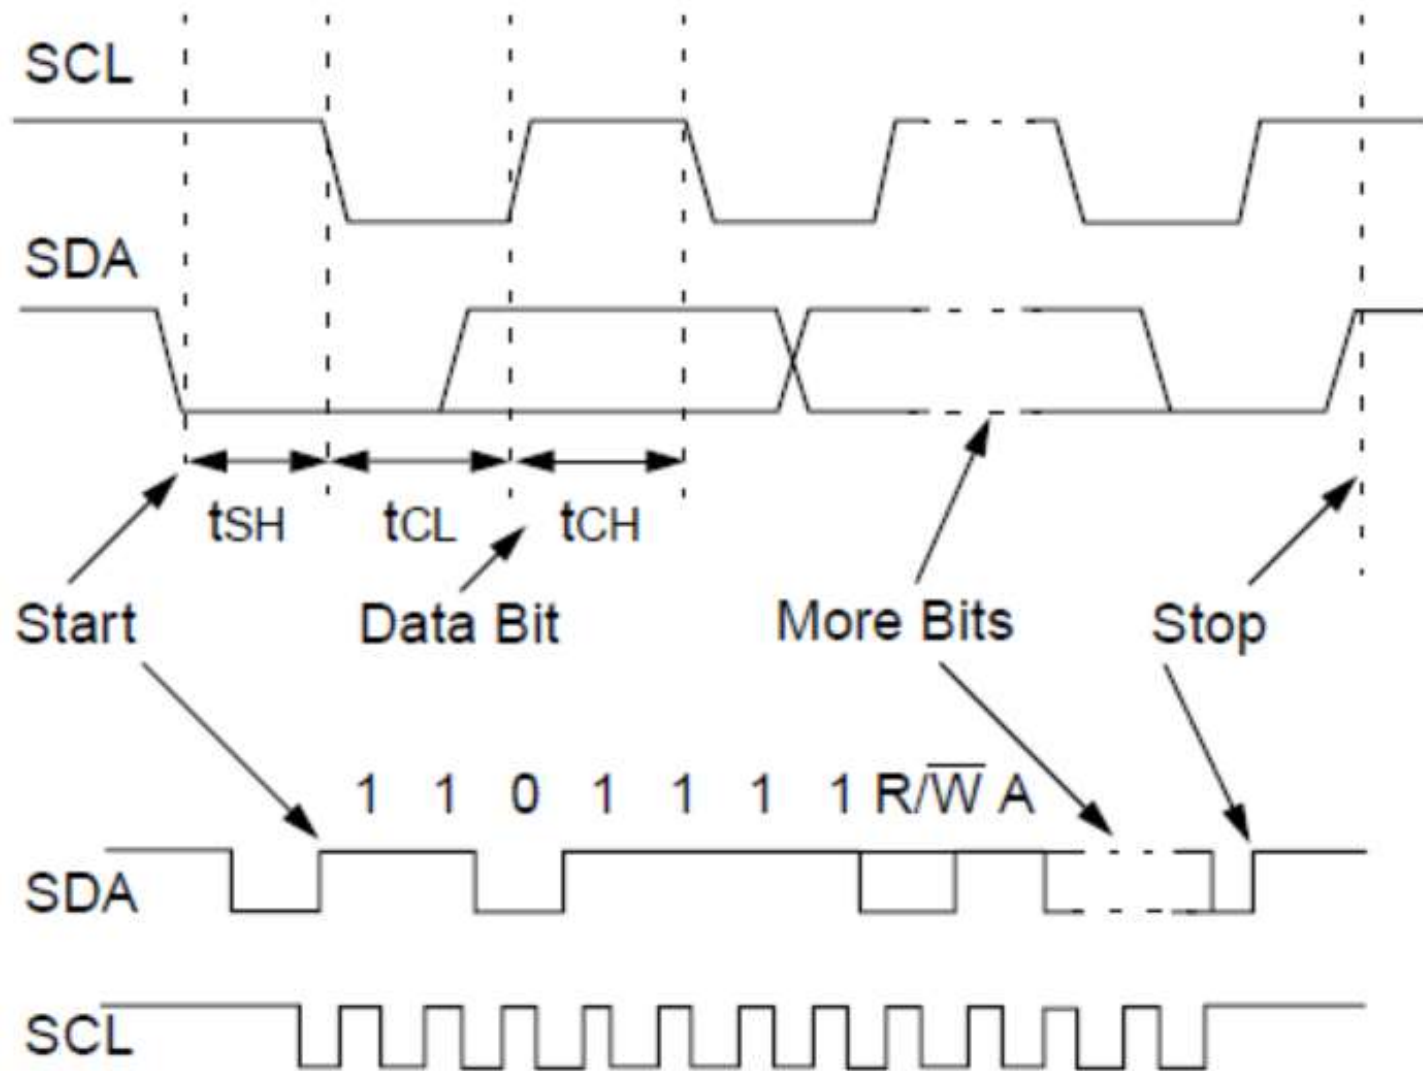

Figure 7: I2C Timing
- During normal communication, the SDA line is only permitted to change while the SCL line is low, thus providing two violation conditions (Figure 7) which are used to signal a start condition (SDA drops while SCL is high) and a stop condition (SDA rises while SCL is high), which frame a message.